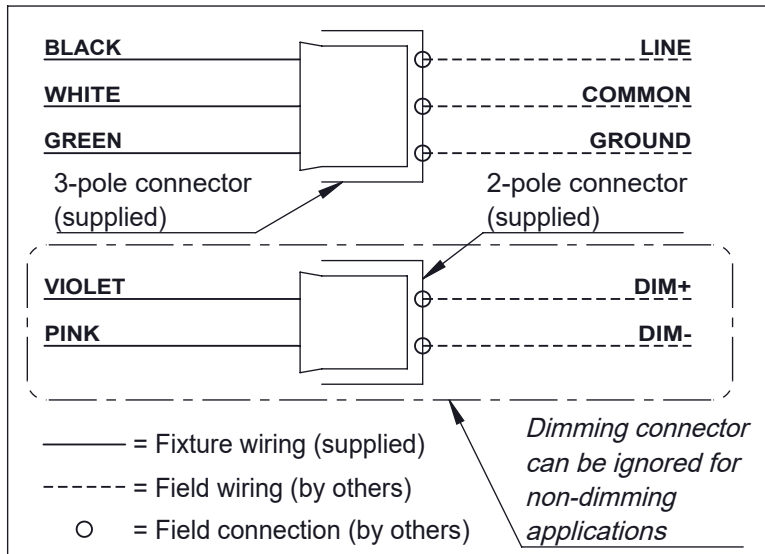

Figure 5
5. Make all necessary electrical connections according to the field wiring diagram (Fig. 5). All wiring, including dimming wiring, must have insulation rated for the maximum rated voltage of the luminaire (300V).